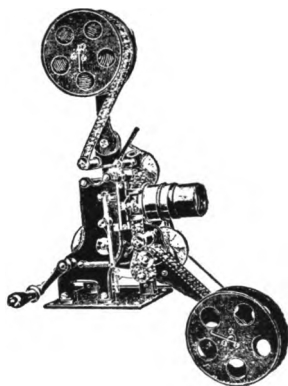
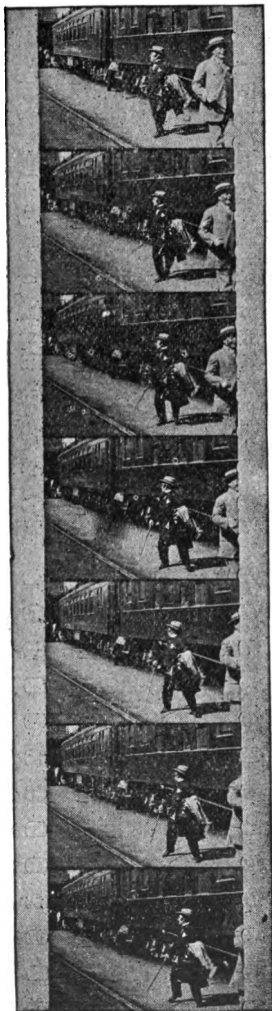

FIG. 109.—MOVING PICTURE MECHANISM
FIG. 110.—MOVING PICTURE
**129. Moving Picture Machine.** In this we have in principle a projection lantern. The difference lies in the fact that the picture to be projected is very small, and is continually changed by means of a fast-moving mechanism (Fig. 109). The pictures are slightly different, since they are of moving objects taken in rapid succession (Fig. 110). When thrown upon the screen rapidly the impression of moving objects results. As they change at the rate of sixteen per second, the eye is unable to detect the interval between them.
Figure 120 shows in a magnified form the appearance of the man in the bottom picture of Figure 110, as seen in the negative from which the half-tone plate of Figure 110 was made.
a solution that dissolves copper. The parts where the coating was made insoluble are not affected, and remain as projections even with the original surface of the plate. These projections represent the *dark* parts of the original object. Figure 121 shows the magnified appearance on the copper plate of the same part of Figure 110 that Figure 120 represents in the negative. When this copper surface is inked and an impression is made upon paper, the black parts will be made by the projections on the plate. The different projections and depressions are so small and so close together that the eye gets only the general effect of all the separate black impressions. Where the impressions are close together, the print appears black; where far apart, it appears white; while gray results when they are between these two extremes. This may be likened to three squares of equal size, in which dots have been placed. If these are scattered in the first, a little nearer together in the second, and close together in the third, the effect will be white, gray, and black, if they are looked at from a distance.
If Figure 121, which is the positive, is held at arm's length, the outline of the face is not clear; but if the book is placed eight or ten feet away, the appearance is nearly the same as the face in Figure 110, though reversed.